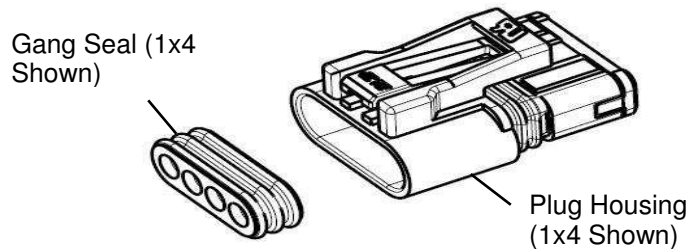

Figure 5
2. Insert the gang seal into the contact cavity at the back end (wire side) of the cap and plug housings as shown in Figure 5. Push seal into the contact cavity until it bottoms in the housing.